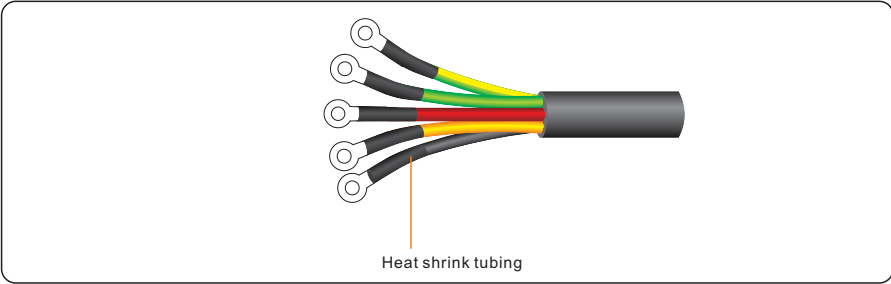

Figure 5.5 Crimping the OT terminal
**Step 2** Insert the exposed core wires into the crimp area of the OT terminal and crimp them using hydraulic pliers. Wrap the wire crimp area with heat shrink tubing or PVC insulation tape, as shown in Figure 5.5.